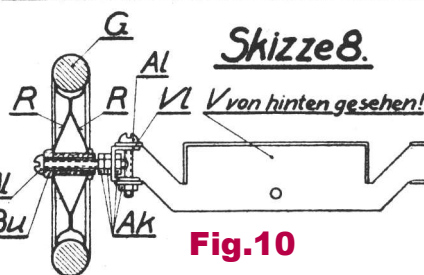

Fig.10
- **Bu Bush** for front wheel. Nickelled brass, 13.8mm long o/a with 8.4mm Ø head, and 5.6mm Ø shank, with part of it threaded at .8mm pitch. No Nut to fit this thread has been seen. The bore is 3.5mm and is a loose fit on the Long Bolt, #A l, on which it runs (see Fig.10). {2}
The building instructions include 10 diagrams and 4 are shown in Figs.9 and 10 (the wording in the Dutch manual is again in German). To start with, 2 chassis side members are made by joining a pair of Chassis Side Members, #C R, for each side, overlapped to give the correct length, as given on p3 – from 27cm for the 2-Seater to 48cm for the Large Bus. Then these are joined by the Front Axle plus the Floor parts, and the back wheels added. The back wheels are simply the Tyre with a rear Wheel Disc on either side, squeezed together by a Collar on either side. The front wheel assembly is shown in Fig.10. It appears that there is narrow Nut on the end of the Bush #Bu, and one would be essential to allow the Discs to grip the Tyre and allow the whole assembly to rotate on the Bolt #Al. There seems no reason for the left Nut #Ak unless it simply acts as a spacer. Although the Steering Arm and front wheels could pivot on the Front Axle, the king pin Bolt has only one Nut on it and so presumably it is intended that the wheels are locked in position. And indeed there is no indication that the Steering Wheel/Column is anything other than decorative. The body is built up from butted Panels joined by the Flat & Angle Brackets. It is attached to the chassis by 2 A/Bs towards the rear and by bolting the bottom of the Radiator to the Front Axle.